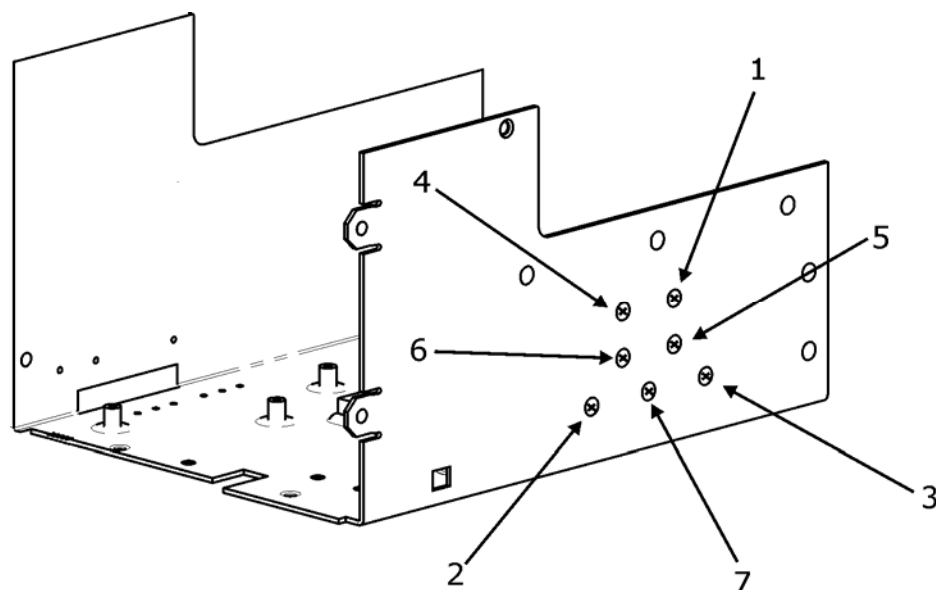

Figure 4-3. Heat Sink Torquing Sequence
3. Apply new Thermal Pads (20 and 21) to Heat sink (9).
4. Apply uniform, thin layer of Thermal Grease (23) to Heat Sink (9). Perimeter weeping is acceptable.
5. Attach Heat Sink (9) to Main Board using two Screws (12).
6. Install seven Screws (14) to attach the heat Sink (9) to Chassis (8) side. See Figure 4-3 for torque sequence.
7. Install three Chassis Standoffs (18) into Main Board (2) (skip this step for standard units).
8. Install four Screws (11) into Main Board attaching Main Board to Chassis. Install seven Screws (11) into Main Board if the unit is a standard unit.